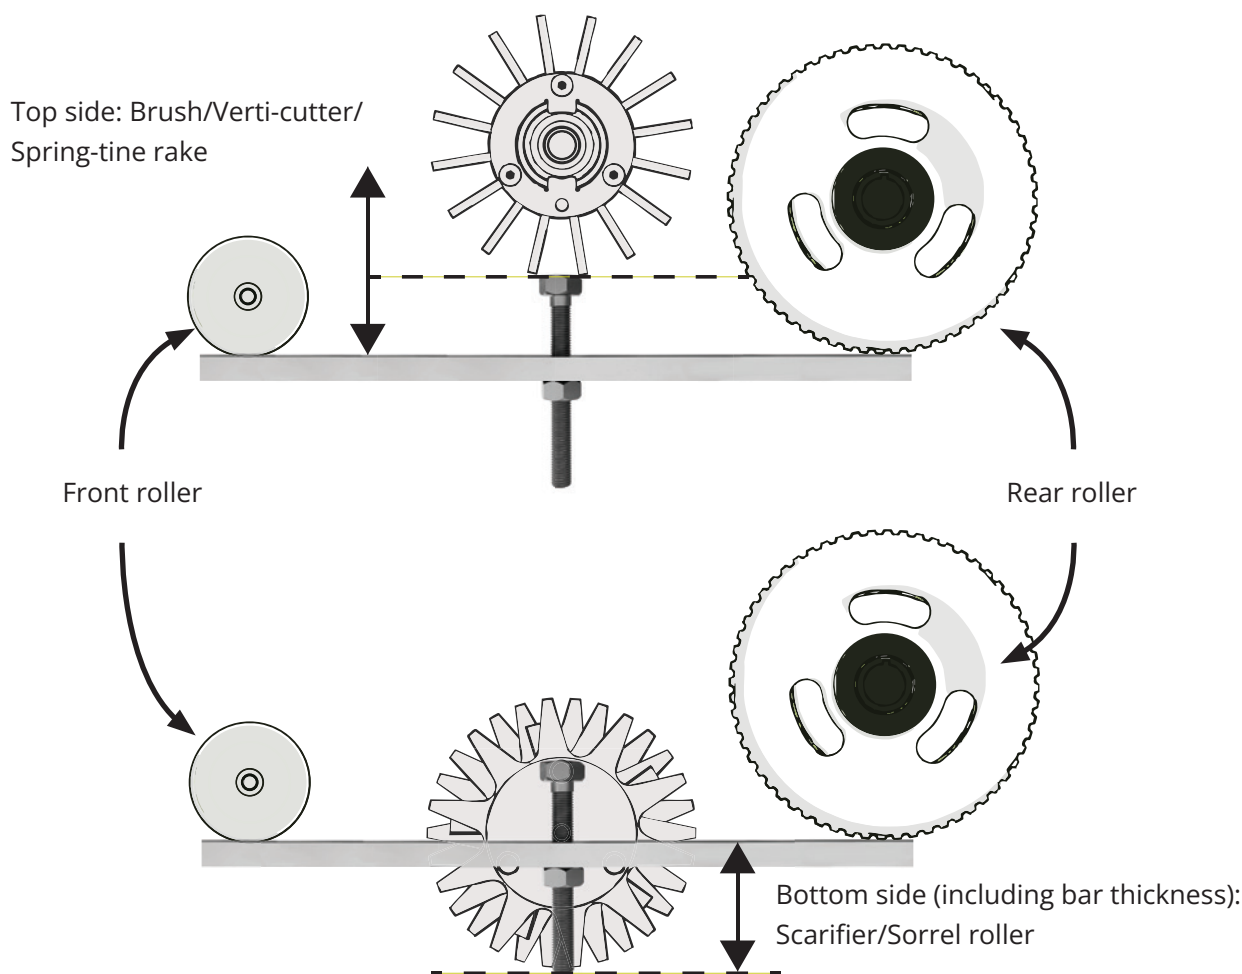

Fig.9. Setting bar measurement for above/below ground cassettes.
tively) is to that desired (Fig.9). To note:
7. Rotate the toothed gear to raise or lower the front roller. While doing this, position up the setting bar again between the front and rear roller. Stop adjusting when either the tips of the brush hairs/verti-cutters are level with the bolt head, or the tips of the scarifier/sorrel roller are level with the bolt end. (Fig.9). Tighten lightly the top clamp nut.